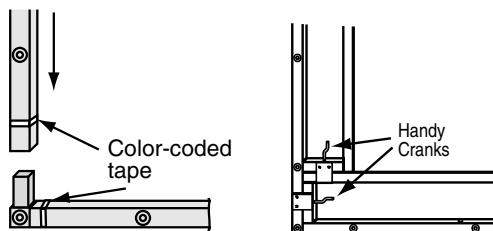

Figure 1
- ① Lay out frame pieces on floor, by matching up color-coded tape near corners. Snaps should be facing up.
- ② Assemble frame (see Fig. 1). If necessary gently tap frame ends with a rubber mallet to make sure castings are fully seated.
- ① Unfold and lay out pieces on floor, by matching up color coded marks. Lock all hinges (see Fig. 1). Stage Left and Stage Right sections should be placed with snaps *up*. Top and bottom sections should be placed with snaps *down*.
- ② To increase frame rigidity, hinges on top and bottom sections have rivnuts marked with red and green. Insert a Handy Crank through the threadless rivnut (red) and tighten into the threaded rivnut (green).
- ③ Apply small sections marked "Stiffener Bars" to back of bottom frame section, using 8 Handy Cranks. These eliminate sag on large suspended frames. Failure to use all Handy Cranks may result in screen frame damage. Turn bottom frame section over so snaps face up.
- ④ Repeat step 3 for top frame section.
- ⑤ Join top and bottom sections to Stage Left and Stage Right, using 2 Handy Cranks on each of the 4 corners. Match numbers on white labels. **NOTE:** No Handy Crank should protrude outside screen frame.
- ⑥ Attach surface (see "Surface Installation"), and suspend using appropriate materials (provided by others to meet specific installation requirements).